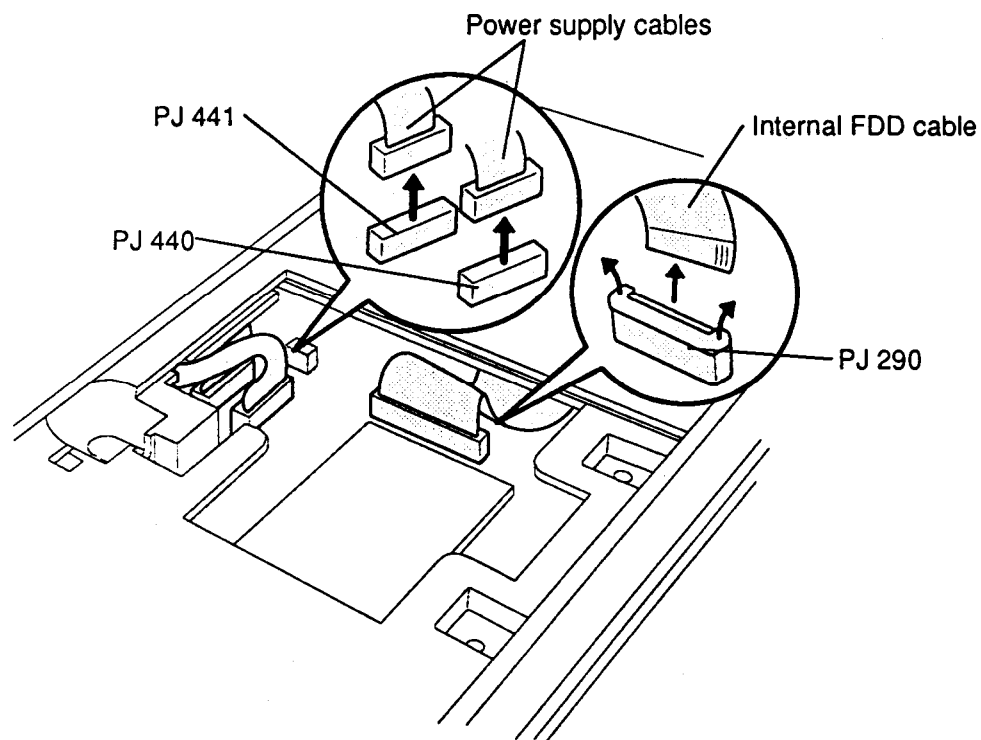

Figure 4-17 Removing the Power Supply and FDD Cables
To remove the T6600C's bottom cover, follow the steps below and refer to Figures 4-17 and 4-18.
3. Remove the two **power supply cables** from **PJ440** and **PJ441** and the internal **FDD cable** from **PJ290** (Figure 4-17).
To install the T6600C's bottom cover, follow the steps below and refer to Figures 4-17 and 4-18.
2. If the **power supply cables** and **internal FDD cable** are disconnected, connect them to **PJ440**, **PJ441**, and **PJ290** (Figure 4-17).